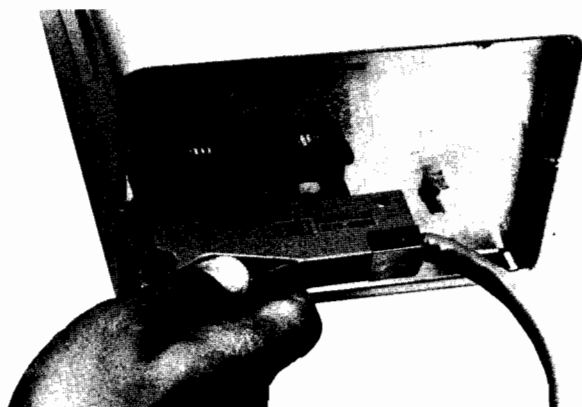

Figure 11-6. Connecting the Controller Cable to the Disc Drive
3. Place one end of the controller cable onto the drive connector at the rear of the drive (figure 11-6). Note that both ends of the controller cable are identical, thus either end may be used.